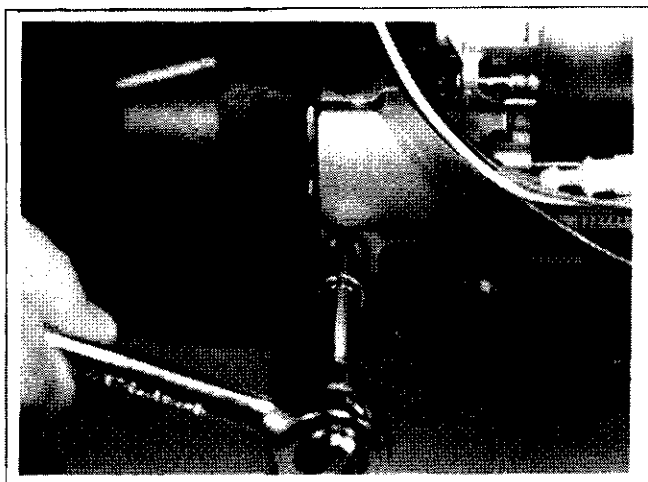

Figure 9-23. Removing Electric Starter Motor.
2. Remove the two hex. flange screws. See Figure 9-23.